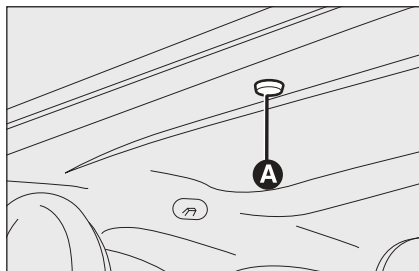

fig. 42
- ☐ Remove the protective cap **A**-fig. 42 located on the internal covering, behind the sun visor;